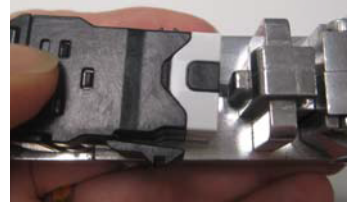

Figure 8
6. Insert the pre-assembled modular jack into the SL termination tool (refer to Instruction Sheet 408-8858). If the modular jack has a dust cover, the dust cover must be opened before inserting the modular jack into the tool. See Figure 8.